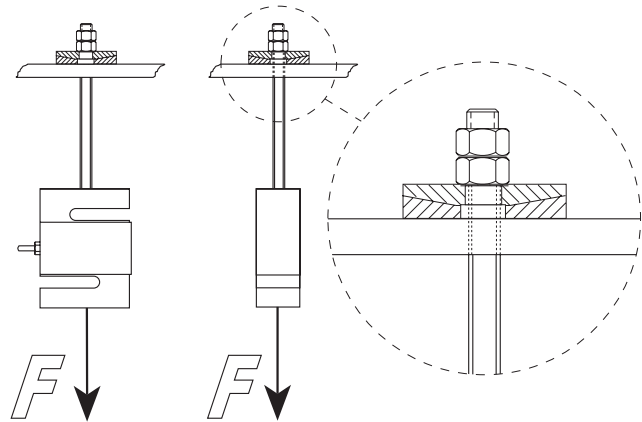

Figure 2-37
Figure 2-37 illustrates the correct way to apply load to an S-beam load cell.
- 5) The extremities of the suspension should be attached to the structure and vessel in such a manner that they are free to move. At a minimum, use spherical washer set as illustrated in Figure 2-37.